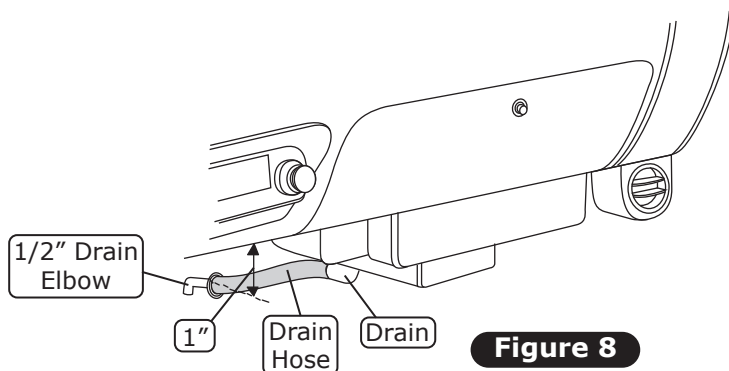

Figure 8
2. In line with the drain, lightly make a mark on the firewall. Then, measure 1" down and drill a 5/8" hole through the firewall (See Figure 8, below).
4. Install a 1/2" 90° drain elbow onto the drain hose (See Figure 8, below).